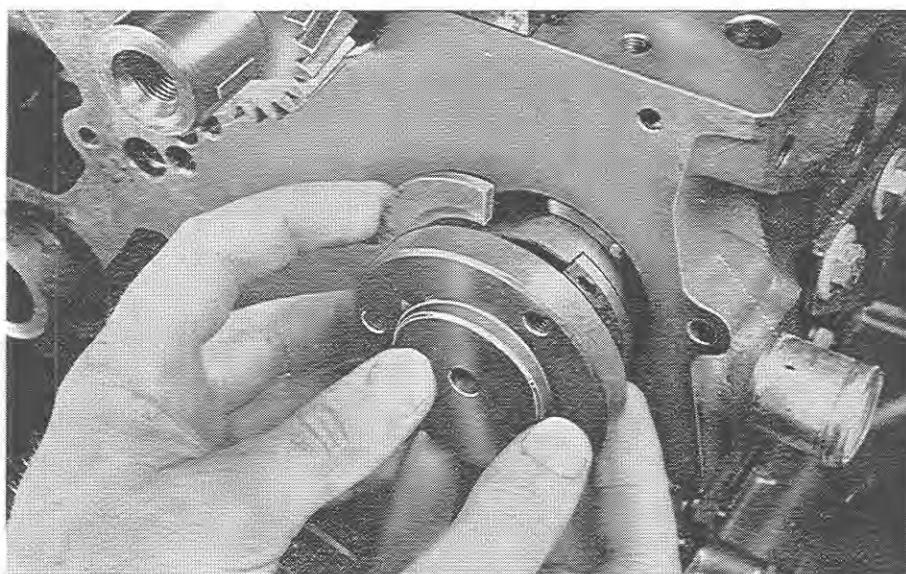

Fig. 11
- 5) Place the half thrust washers between the adaptor plate and the cylinder block. These must fit into the groove of the camshaft (Fig. 11 and 12).